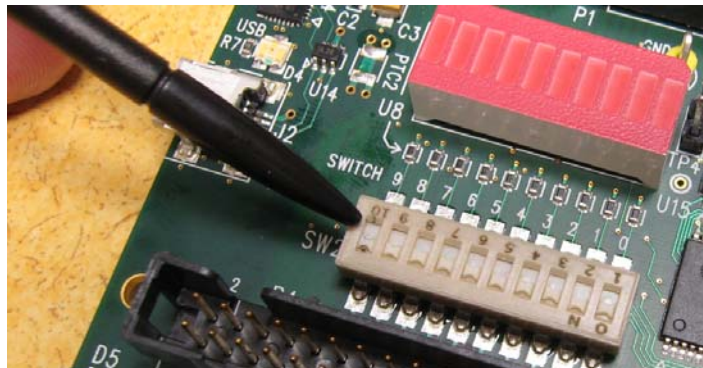

Figure 6 SW2 is set for Flash operation in this photo.
- b) SWITCH 9 on SW2 on the Actel board. (ON = Flash and OFF = RAM). See Fig 6.